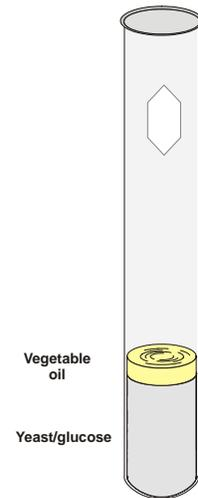

Figure 2
11. In the test tube, place enough vegetable oil to completely cover the surface of the yeast/glucose mixture as shown in Figure 2. Be careful to not get oil on the inside wall of the test tube. Set the test tube in the water bath.